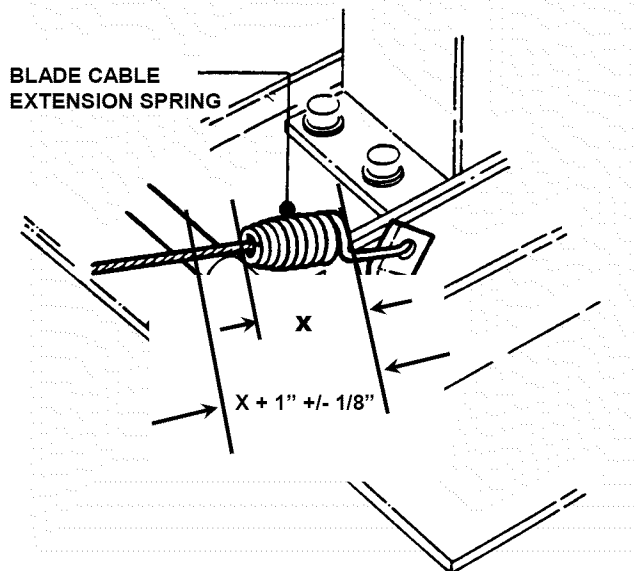

FIGURE 3.4
2. Measure blade cable extension spring. Spring should extend 1" +/- 1/8" for proper belt tension. See Figure 3.4.